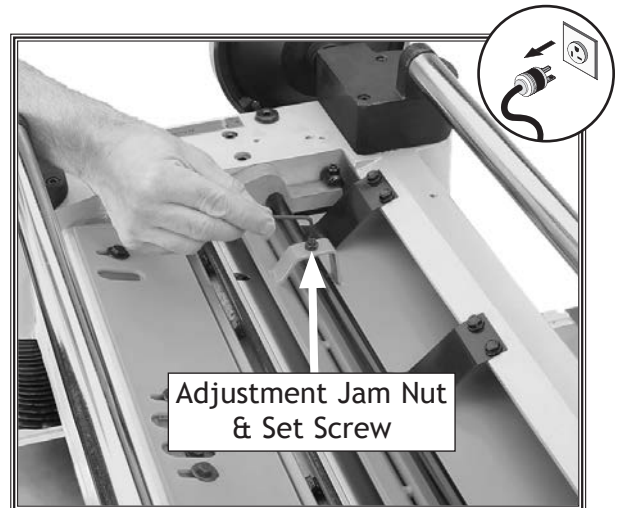

Figure 49. Example of adjusting chip breaker height.
12. Using same "0" reference on Rotacator dial from **Step 5**, perform similar steps as described previously to adjust height of chip breaker to its recommended specification given at beginning of this subsection. The adjustment controls are shown in **Figure 49**.